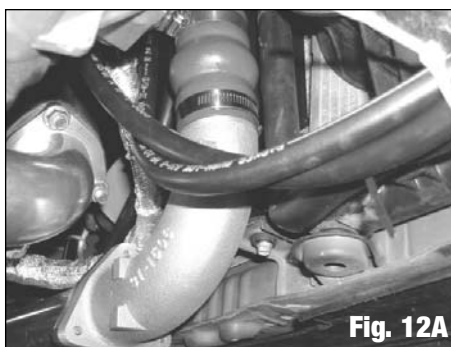

Fig. 12A
6. Attach Compressor Outlet Pipe to the compressor outlet using the supplied silicone connector and the appropriate hose clamps. The outlet of the compressor outlet pipe should face toward the driver's side of the vehicle (**See Fig. 12A**). Attach the intercooler inlet pipe to the compressor outlet pipe using the three 8mm x 1.25 (25mm long) bolts, O-Ring (Use a bit of grease on the O-Ring to hold in place), and